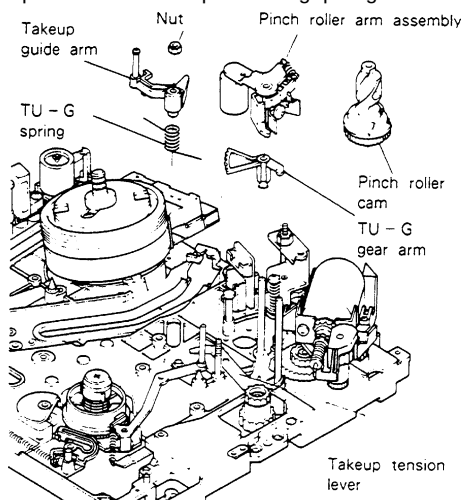

Fig. 2-13-1
2-13-1 Removal (Refer to Fig. 2-13-1.)
2-13-2 Installation (Refer to Fig. 2-13-1~2-13-3.)
- C. Turn the takeup tension lever fully clockwise as shown in Fig. 2-13-1.